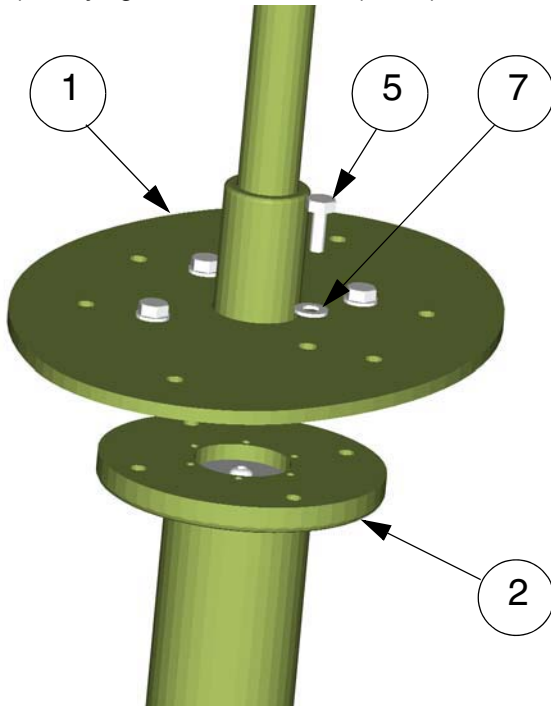

FIG.6
- vi) Place the Whizzer Pole Assembly (item 1) onto the Shaft & Bearing Assy (item 2). Secure the Whizzer Pole Assembly to the Shaft & Bearing Assy using 4-off M12 x 30 Hex Head Bolts (item 5) and M12 Washers (item 7). Fully tighten to 50-60 Nm. (FIG.6).
- ii) Dis-assemble the Whizzer Pole Assembly from the Shaft & Bearing Assy by removing 4 off M12 x 30 Hex Head Bolts and M12 Washers. See Section 1 FIG.6.
- xiii) Re-assemble the Whizzer Pole Assembly on to the Shaft & Bearing Assy using 4 off M12 x 30 Hex Head Bolts and M12 Washers. See Section 1 FIG.6.